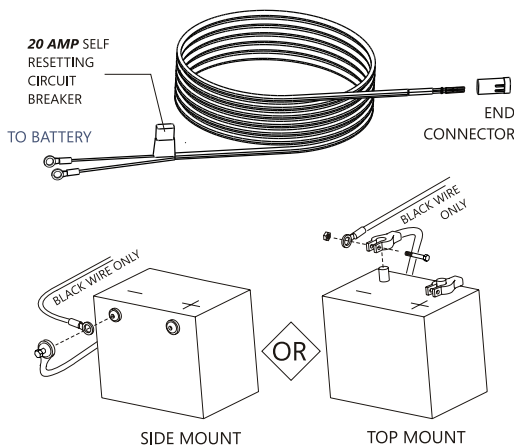

Figure 4-1
2. Route the wire harness beginning at the battery. Attach the black wire to the negative terminal on the battery. Do NOT connect the red wire to the battery until the very end. **See Figure 4-1.**